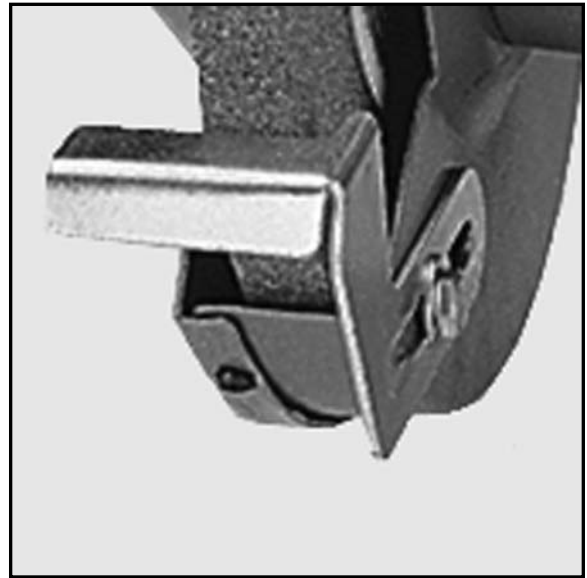

Figure 2
5. Attach the eyeshields with the small screws, nuts, and washers provided. Adjust the eyeshield to suit your needs by loosening the hex bolt or knob and moving to the desired position. Retighten fastener. **Figure 2.**